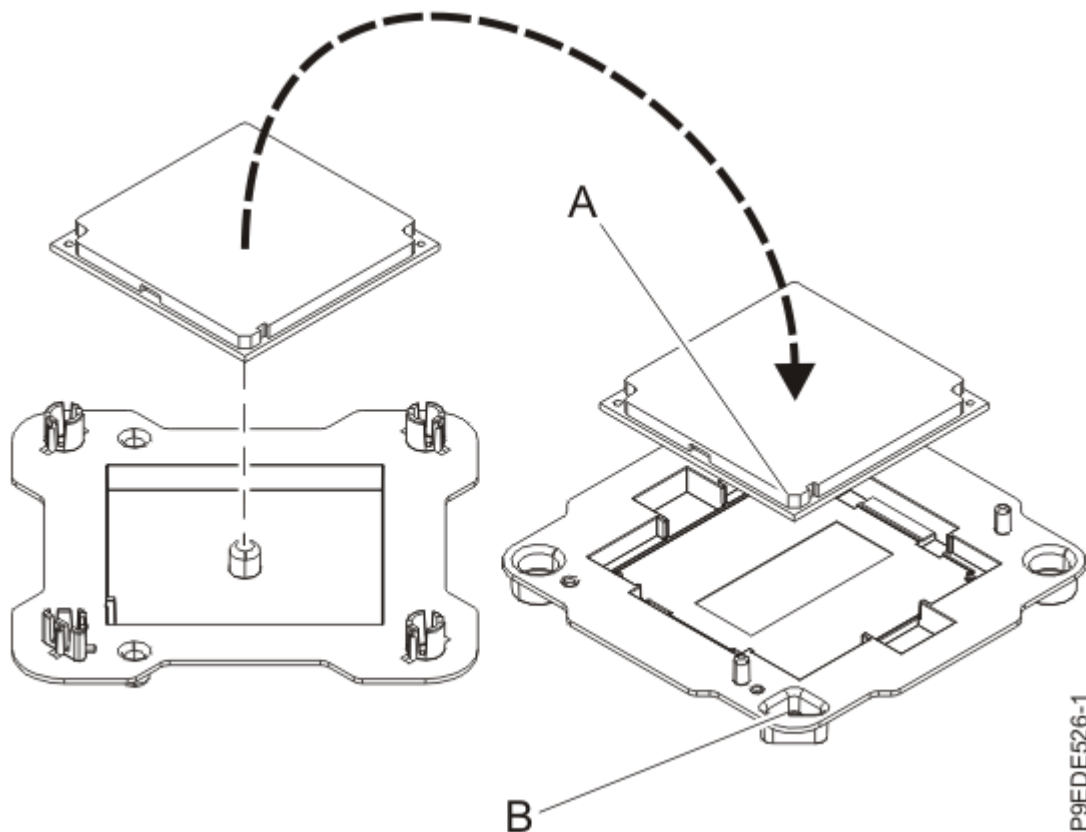

Figure 230: Placing the system processor module into the packaging
6. Lightly grip the system processor module that you replaced by the edges and lift it off of the packaging cover. Align the beveled corner of the module (**A**) to the corner of the packaging with triangle (**B**) and place it in the packaging, as shown in Figure 230 on page 277. Close the packaging cover.